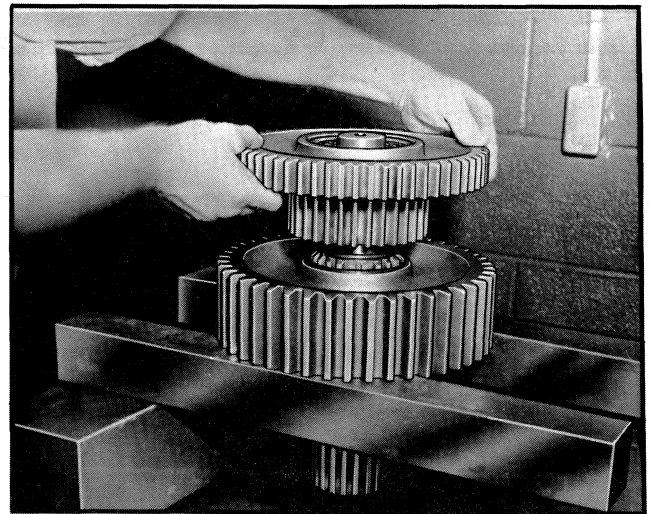

Fig. 9 – Mounting Double Gear on Output Shaft ^{F17D}
7. Mount double gear assembly onto output shaft assembly as shown in Fig. 9.